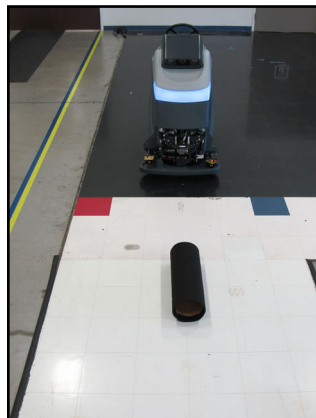
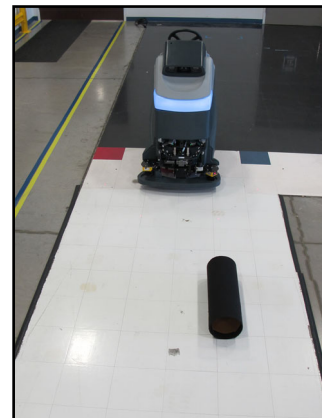

Figure 23: Center
Figure 24: Left
10. Once the machine has stopped, and before it kicks out of playback, move the cylinder so that it is approximately 1 meter (3 feet) ahead of the machine as shown in Figure 23: Center. The machine should resume playback and move toward the target cylinder and then stop before it contacts the target cylinder. (If the machine kicks out of playback, simply press the play button to resume playback). Repeat for the left side as shown in Figure 24: Left.